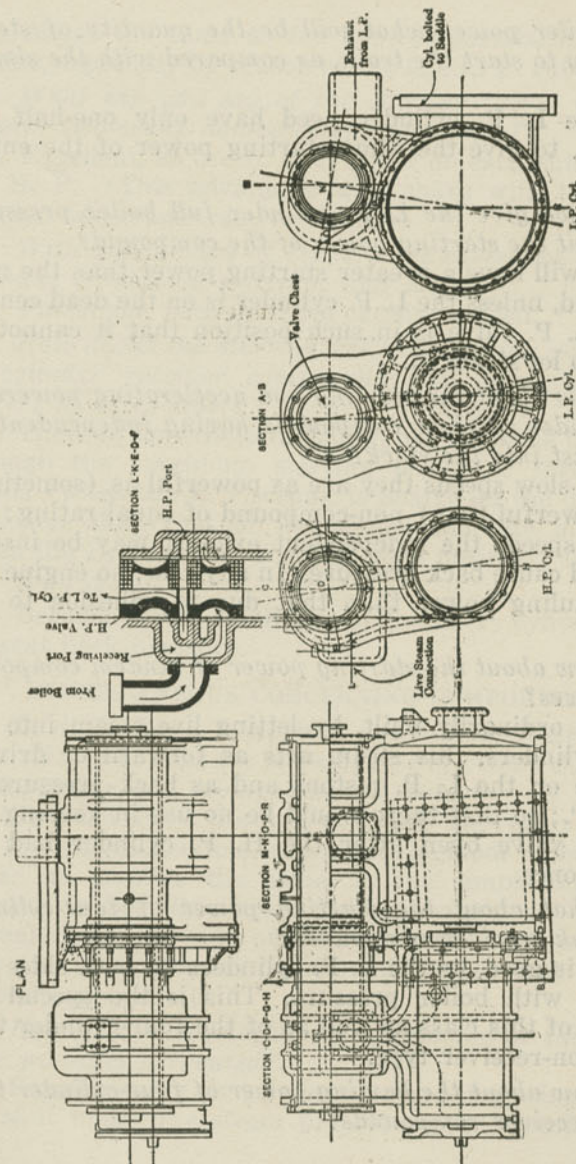

Fig. 396. Cylinders of Baldwin Tandem Compound.
A. The compression in the H. P. cylinder, requiring for its reduction either (1) large volume of clearance space therein (which will make a drop in pressure at one point in the stroke) or (2) giving the H. P. valve "negative exhaust lap" and affording large clearance space; extra weight of reciprocating parts, and loss of heat by radiation, with no chance to dry the steam between the cylinders.
*A.* Referring to Fig. 396, there are two H. P. and two L. P. cylinders, but the H. P. are in front of and in line with the L. P. instead of alongside. Each cylinder on each side has its own valve chest and is cast separately from the saddle. A pipe from the saddle admits steam to the H. P. chest; the L. P. exhaust is through a stuffing box to the saddle, so that the cylinders and valve chests and the saddle can be "metal to metal." The steam chests on each side are similarly joined; the same bolts holding the chests together and fastening the stuffing-box gland. The valves are balanced pistons connected in line, each exhausting through the center. The driving pistons are on a continuous rod, and those on each side make their strokes in common. The H. P. and L. P. cylinders are fastened together by outside bolts securing the intermediate head and the stuffing-box gland without any bolts being able to get into the cylinder, while the intermediate head may be removed without disturbing the intermediate rod-packing.